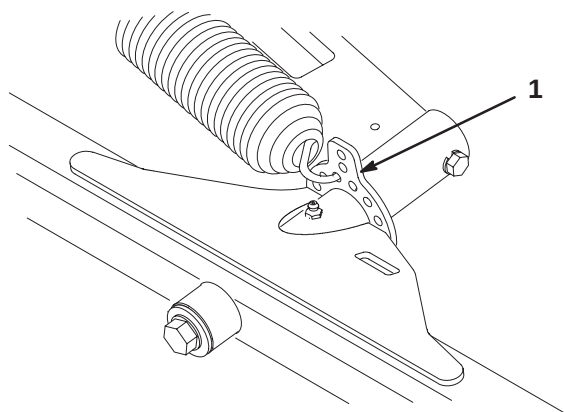

Figure 12
1. Hook the spring into the third hole from the top on the inboard side of both front cutting unit lift tabs and on the rear cutting unit lift tab (Fig. 12).